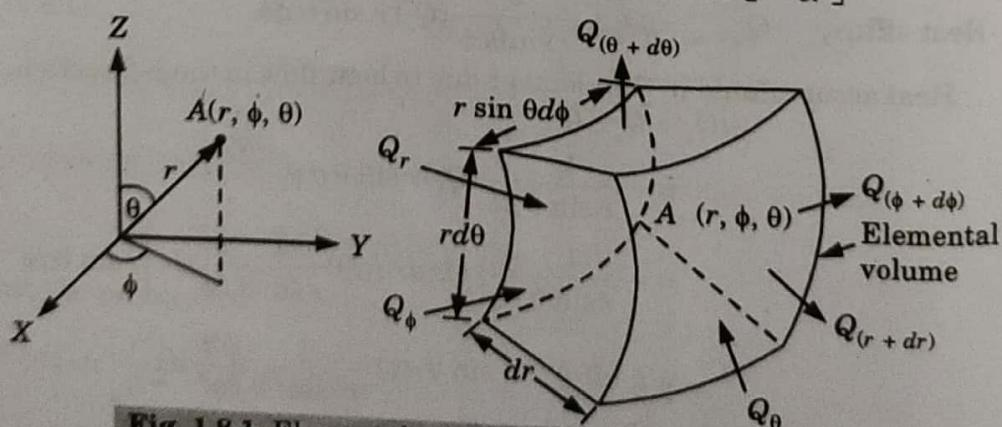

Fig. 1.8.1. Elemental volume for three-dimensional heat conduction analysis-spherical coordinates.
- Consider an elemental volume having the coordinates (r, ϕ, θ) , for three dimensional heat conduction analysis, as shown in Fig. 1.8.1.